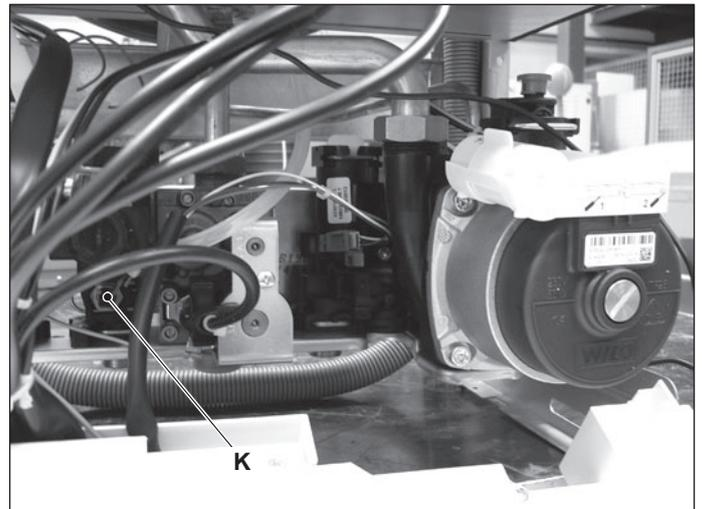

Figure 8.7
- 5 Disconnect d.h.w. temperature probe, respectively K (Figure 8.7).